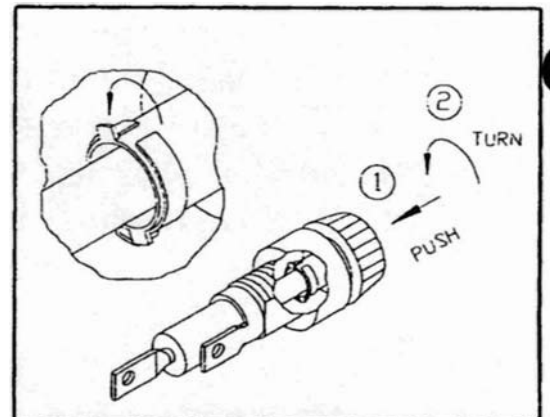

Fig.4
4. Push and tum the fuse holder clockwise to secure.(see Fig.4)